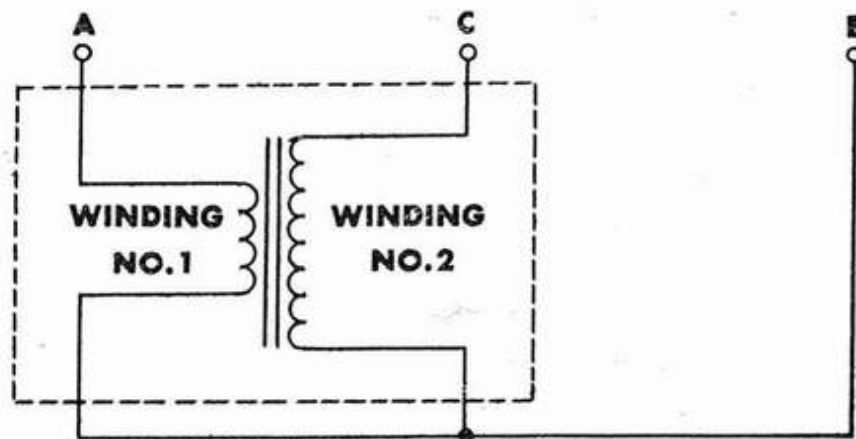

FIGURE 4
2. Connect the test transformer to the binding posts, as shown in Figure 4. Note that: